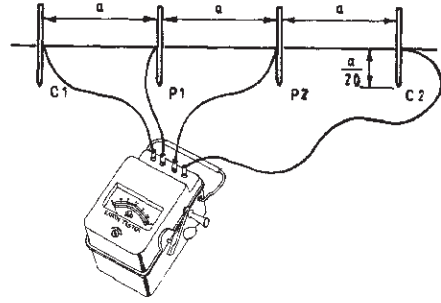

Fig. 7
- (1) Four electrodes are driven into the ground, in a straight line at equal distances 'a'.
- (2) The depth of insertion must not exceed 1/20th of 'a'.
- (3) The instrument is connected to four spikes as in Fig.7.
- (4) The resistance is taken in the usual way.
- (5) The specific resistance or resistivity is calculated.
- (6) The four electrodes are repositioned for further tests. If the spacing is maintained, a direct comparative reading will be obtained each time, and areas of lowest resistivity located at constant depth 'a'.
- (7) The distance 'a' is the depth to which soil resistivity is being measured. Thus a profile of different readings for depths b, c, d, etc., may be obtained by re-spacing electrodes to distances b,c,d, etc.